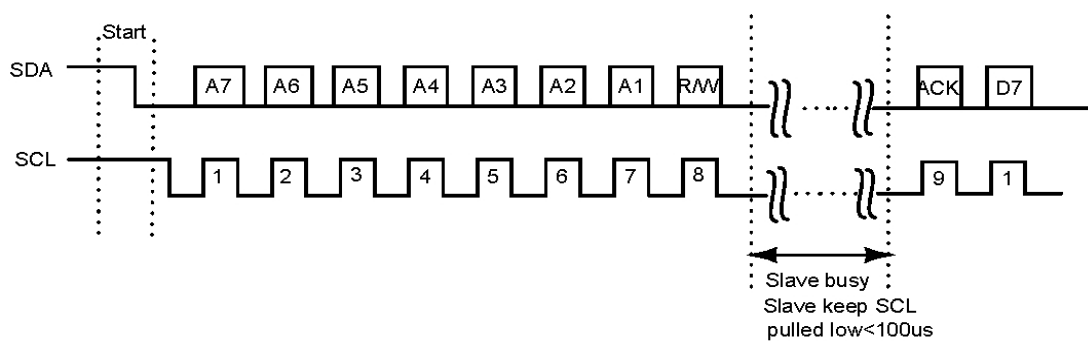

Figure 9.3.2: I²C clock stretching example
5. I²C slave can hold off the master in the middle of a transaction using what's called clock stretching (the slave keeps SCL pulled low until it's ready to continue). Refer to figure 9.3.2 for an example.